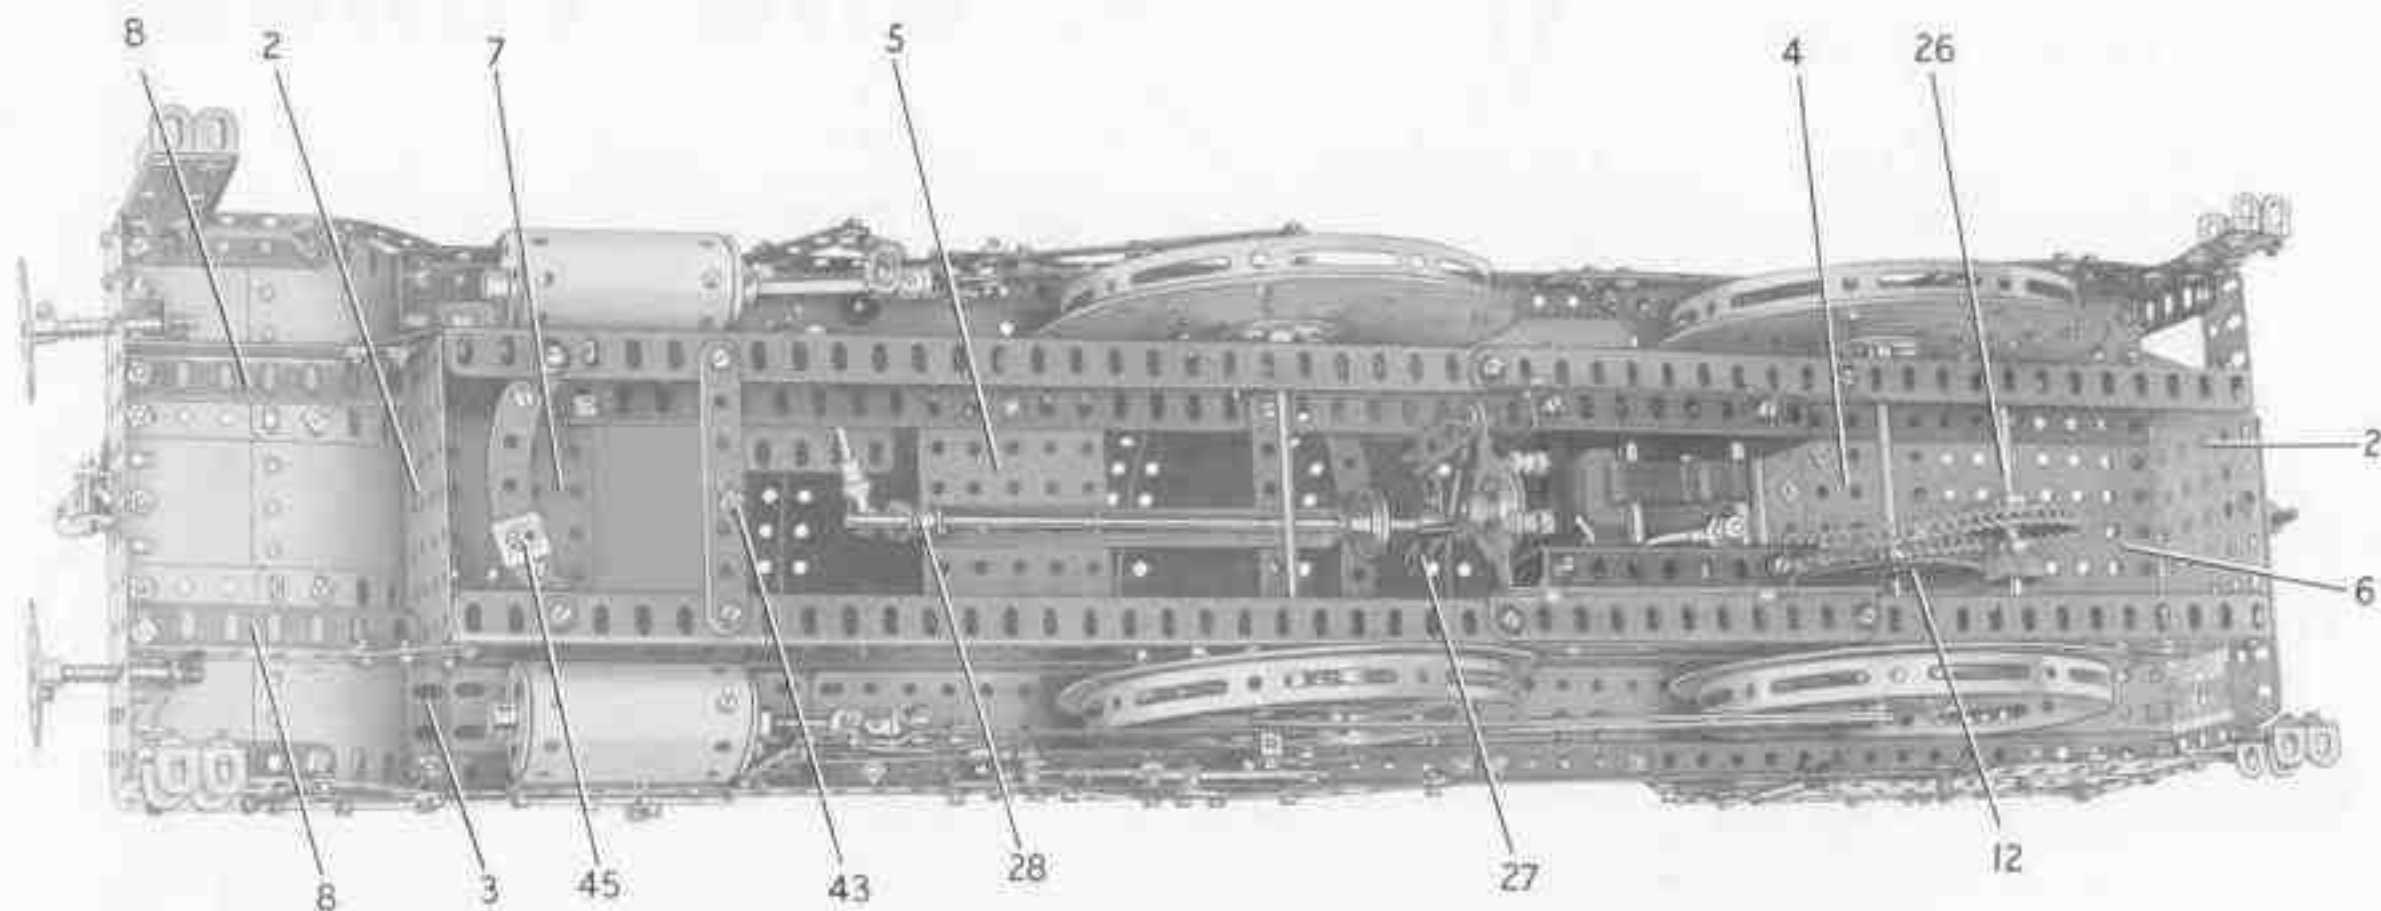
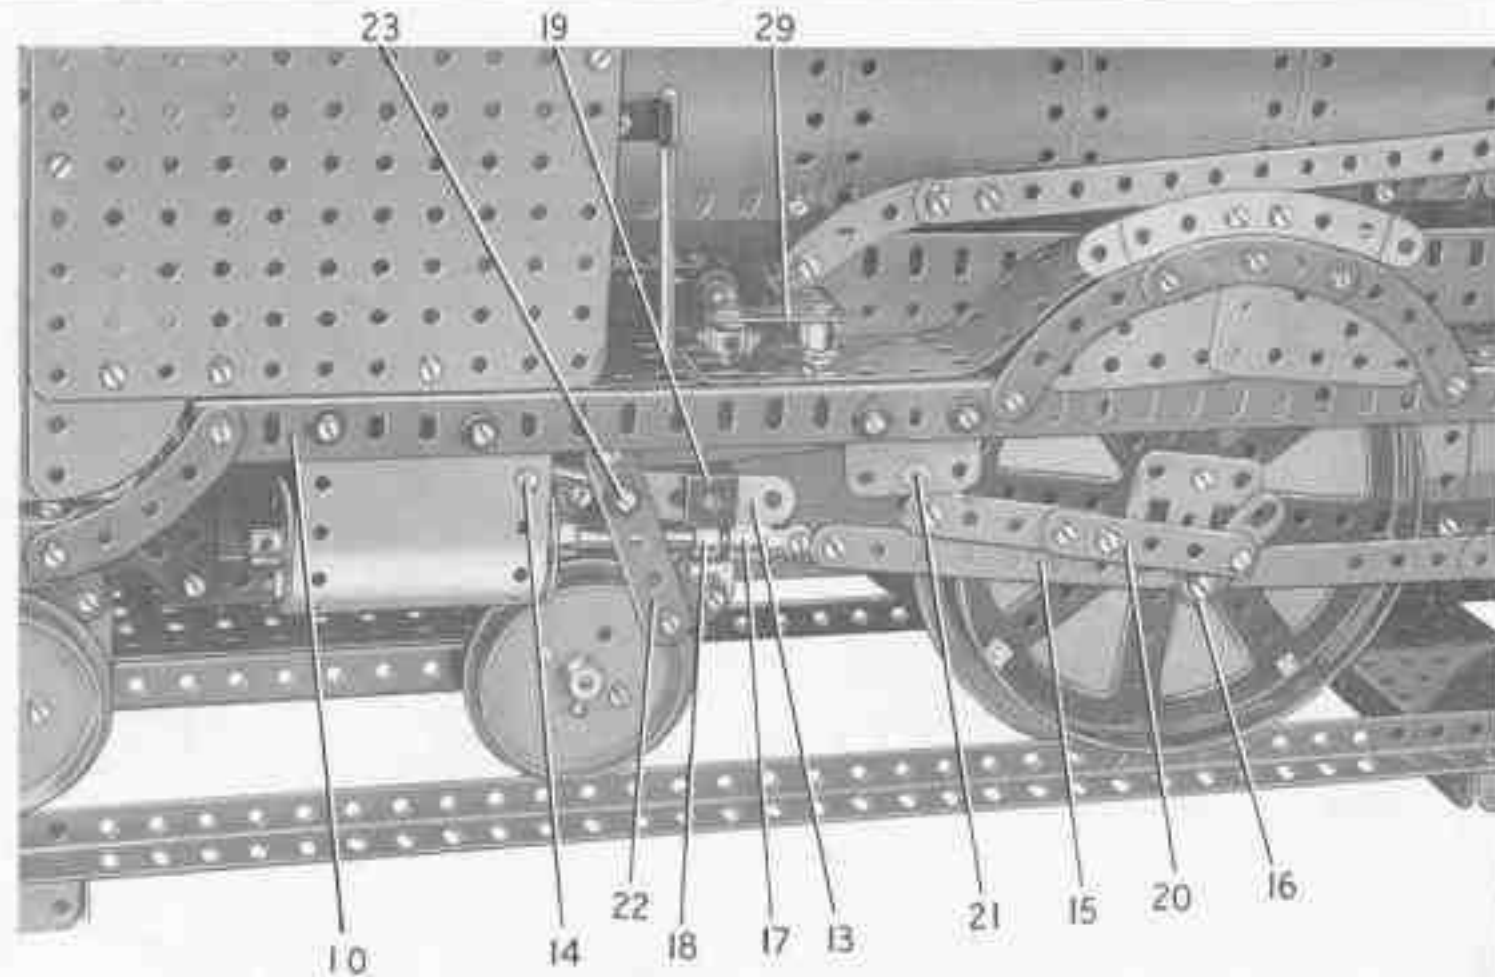
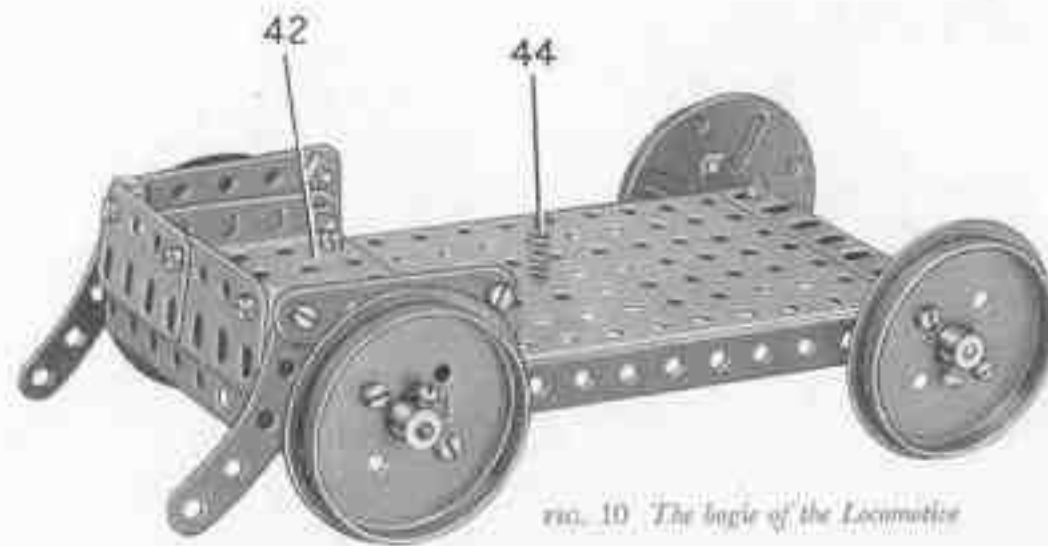

FIG. 2. Underneath view of the Locomotive showing details of the main frame and the driving arrangement
FIG. 4. A close-up picture of the valve motion and cylinder assembly
FIG. 10 The bogie of the Locomotive
Building the Model: The Main Frame and Running Plates (Figs. 2, 3 and 4)
The side-members are joined together at each end by 3½" x 2½" Flanged Plates (2) (Fig. 2), the front one of which carries a built-up girder (3) made
The running plate on each side is made by bolting a 24½" Angle Girder (10) (Fig. 4) to the girder (3) and to 2½" Flat Girders fixed to the Flat Plate (6). Two 2½" x 1½" Flexible Plates and three 5½" x 1½" Flexible Plates are attached as shown to the Girder (10), and are curved to form the wheel splashers. The sides of the splashers over the leading driving wheels are each made from two 2½" x 1½" Triangular Flexible Plates and three 2½" Curved Strips. The nameplate is represented by a 4" Stepped Curved Strip bolted to a 1" Triangular
from a 5½" and a 2" Angle Girder overlapped two holes. Two further 3½" x 2½" Flanged Plates (4) and (5) are fixed across the main frame (Fig. 2), and a 5½" x 2½" Flat Plate (6) is bolted across the rear end. A 5½" x 3½" Flat Plate fixed to the Flanged Plate (4) and the Flat Plate (6), forms the footplate. A 3½" x 2½" Flanged Plate (7) (Fig. 3) is attached to the front end of the main frame by Angle Brackets and a 3½" x ½" Double Angle Strip.
At the front the main frame is extended forward by two 3½" Angle Girders (8) (Fig. 2), which are fixed to 1½" Corner Brackets. The front ends of the Girders (8) are connected by a built-up girder (9) (Fig. 3) made from a 5½" Angle
The dropped section of the frame at the front (Fig. 3) is plated by three 1 11/16" radius Curved Plates and three 2½" x 2½" Flexible Plates bolted between the girders (3) (Fig. 2) and (9) (Fig. 3). The outer 2½" x 2½" Flexible Plates are edged by 2½" Angle Girders, and these are connected to the Girders (10) (Fig. 4) by 2½" Curved Strips. The steps are Angle Brackets fixed to 2½" Flat Girders, which are supported by the 2½" Angle Girders.
(Figs. 2, 4 and 6)
Each of the main driving wheels consists of a Hub Disc bolted to a 6" Circular Plate, at the centre of which a Bush Wheel is bolted. The wheels are fixed in pairs on 5" Rods supported in the main frame (see Fig. 2), and at each end of each Rod a Double Arm Crank is held by its grub screw. A Flat Trunnion is fixed to each Double Arm Crank by a ½" Bolt, which passes also through a hole in the wheel (see Fig. 4). The Flat Trunnions form the crank assemblies. A 2½" Gear (12) (Fig. 2), is fixed on the rear 5" Rod.
The Strip (15) is extended by a Fishplate that is lock-nutted to an End Bearing (17) (Fig. 4) on a 3½" Rod. This Rod slides freely in the Flanged Wheel forming the rear cover of the cylinder, and on it a Collar (18) is fixed. A ¾" Bolt is then passed through the lugs of a Double Bracket (19) and is screwed into a hole in the Collar, so that the Double Bracket is able to slide freely on the slide bar (13).
Arrangement of the Motor and Reduction Gearing (Figs. 2, 4, 5 and 6)
The E15R Electric Motor used to drive the model is attached by Angle Brackets to two $5\frac{1}{2}$ " Angle Girders bolted underneath the main frame (Fig. 5). A $\frac{1}{2}$ " Pinion on the Motor shaft drives a 57-tooth Gear on a $2\frac{1}{2}$ " Rod (24), which is passed through the Motor side-plates. A $\frac{1}{2}$ " Pinion on Rod (24) is meshed with another 57-tooth Gear on a 2" Rod (25). This Rod also is supported in the side-plates, above Rod (24), and it carries a $\frac{3}{4}$ " Sprocket connected by Chain to a 2" Sprocket on a 4" Rod (26). A $\frac{3}{4}$ " Pinion on Rod (26) engages the $2\frac{1}{2}$ " Gear (12) (Fig. 2) on the rear driving axle.
A 2" Strip is lock-nutted to one arm of the Motor switch and to a Bell Crank (27) (Fig. 2). The Bell Crank is fixed on an 8" Rod supported in a $5\frac{1}{2}$ " x $\frac{1}{4}$ " Double Angle Strip bolted to the Flanged Plate (5) and to a $3\frac{1}{2}$ " Strip placed across the main frame. The Rod carries a Crank (28), and a Swivel Bearing is pivoted on a $\frac{1}{4}$ " Bolt fixed in this Crank by two nuts. The Swivel Bearing is mounted on a 2" Rod fitted at its other end with a second Swivel Bearing, and this is pivotally attached to a Bell Crank (29) (Fig. 6) by a $\frac{1}{4}$ " Bolt that is fixed by two nuts. The Bell Crank is freely mounted on a $\frac{3}{4}$ " Bolt, and
is held against the head of the Bolt by two nuts screwed against each other (see Fig. 4). The Bolt is then fixed in the running plate by two nuts.
At its front end the boiler is bolted to the Flanged Plate (7) (Fig. 3) and at the rear is supported by a Double Bent Strip fixed to the Flanged Plate (4) (Fig. 2). The chimney consists of three $1''$ loose Pulleys and two Wheel Discs held in place by a $\frac{1}{4}''$ Bolt. A Rubber Ring is fitted to each Pulley.
A 12½" Flat Girder (33) (Fig. 1) on each side is fixed to the flanges of the Flanged Plates (5) and (4) (Fig. 2).
The footplate is extended by a 4½" × 2½" Flat Plate (37), fitted at each end with a 2½" Strip and at the back with a 5½" Strip. The 5½" Strip is connected to the Plate (6) (Fig. 2) by two ½" Bolts, but is spaced from the Plate by a Cord Anchoring Spring on each Bolt.
Construction of the Bogie (Fig. 10)
The bogie is made by bolting a $5\frac{1}{2}$ " \times $3\frac{1}{2}$ " Flat Plate and a $3\frac{1}{2}$ " \times $2\frac{1}{2}$ " Flanged Plate (42) (Fig. 10) to a $7\frac{1}{2}$ " Angle Girder on each side. A $3\frac{1}{2}$ " Angle Girder is bolted to one end and a $3\frac{1}{2}$ " \times $\frac{1}{2}$ " Double Angle Strip is fixed to the other end. A $2\frac{1}{2}$ " \times $1\frac{1}{2}$ " Flexible Plate is attached to each flange of the Plate (42) and is edged by a $2\frac{1}{2}$ " Strip and fitted with a $2\frac{1}{2}$ " Curved Strip arranged as shown. At the front two 2" Flat Girders are bolted together and are attached to the Flexible Plate by Angle Brackets. The bogie wheels are Wheel Flanges and Face Plates bolted together, and they are fixed on 5" Rods. Each of the Rods is held in place by two Collars.
The bogie is *lock-nutted* on a $1\frac{1}{2}$ " Bolt (43) (Fig. 2), which passes through a $3\frac{1}{2}$ " Strip bolted across the main frame. A $\frac{1}{2}$ " Bolt (44) (Fig. 10) is passed through the bogie and on it is placed a Compression Spring. The Bolt is then fixed in a Slide Piece (45) (Fig. 2), which is carried on a $2\frac{1}{2}$ " Curved Strip attached to the main frame by Fishplates.